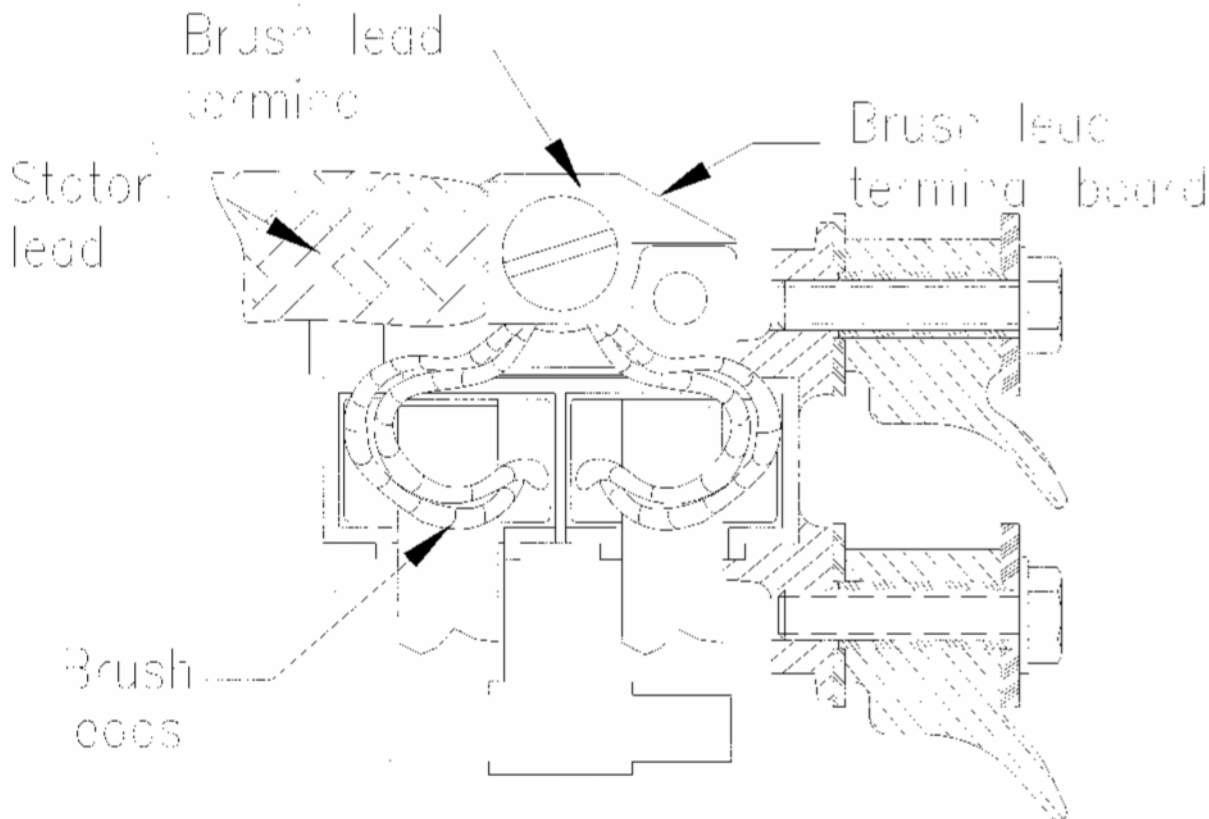

Figure 12 - Brush Lead Connections
- (4) Remove any residue left from the masking tape on the commutator bars with isopropyl alcohol.
- (5) Lower each brush set into its brush holder assembly.
- (6) Attach each stator harness strap and brush lead to the nearest brush holder assembly with a screw (Ref Figure 12).